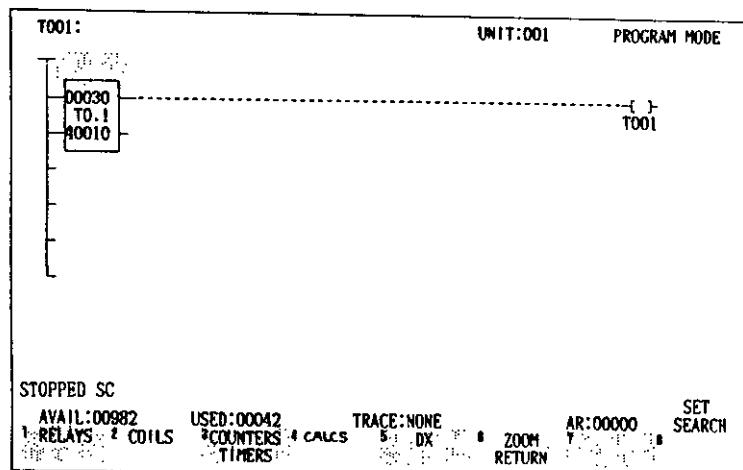

Fig. 5.115
3. To return to the SFC screen from the display of Fig. 5.115, enter S000 at AR and depress **ERASE GET** key to recover the master view. To recover the expanded view, enter the step number of the expanded view at AR and depress **ERASE GET** key. The zoom function (depressing **ZOOM RETURN**) key is also available for the return.